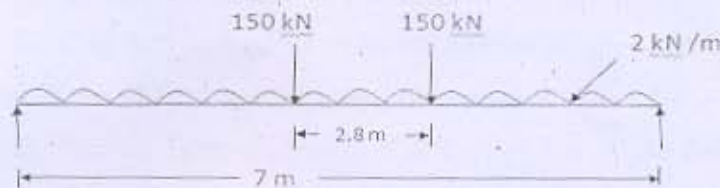

Figure: 1
- (b) Determine the maximum bending moment and shear force for the moving loads. The position of wheel load is shown in figure 1 for a gantry girder. Also give the trial section for gantry girder and gross moment of inertia for the built-up section. [09]